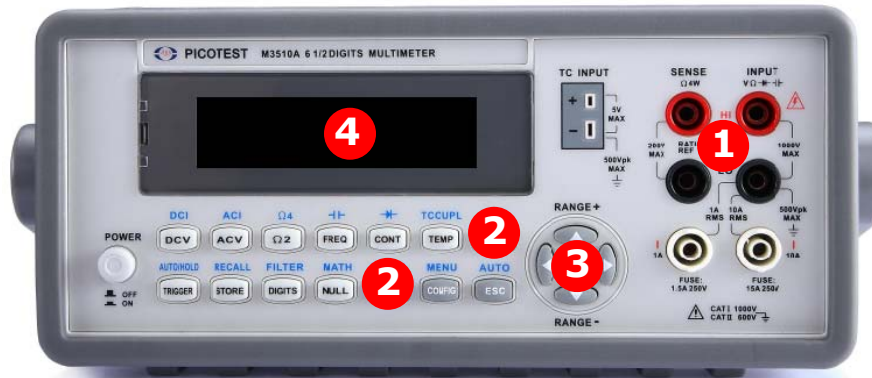

Figure 3-13
1. Press one of the measurement function keys to select a primary measurement as shown in **Figure 3-13**.